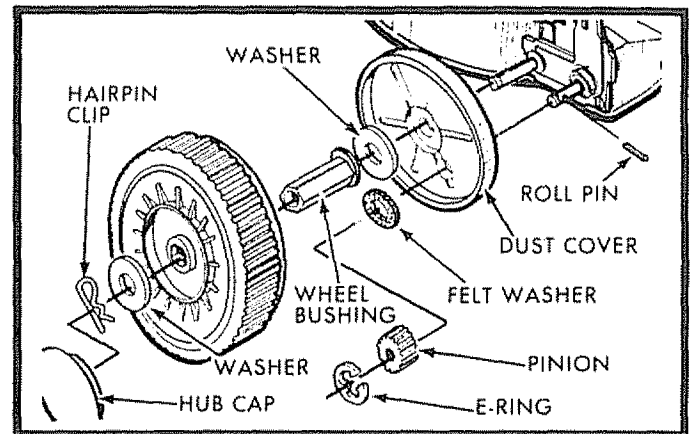

FIG. 12
- Take off front hubcaps, (2) hairpin clips, (2) washers, two (2) front wheels and two (2) washers (See Fig. 12).
- Remove (2) e-rings, (2) pinions, (2) roll pins, (2) felt washers and (2) dust covers (See Fig. 12). When replacing belt, be sure that the roll pins are seated in the slot provided on the bearing and in the slot provided on back of the pinion.